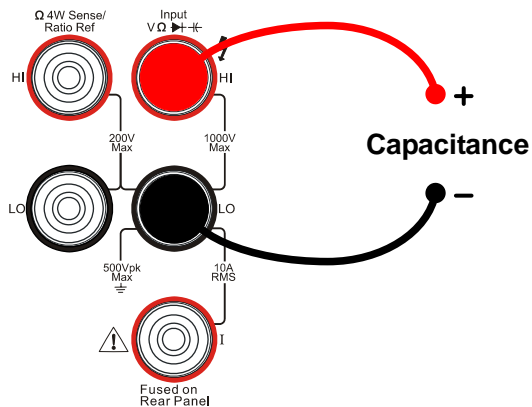

Figure 1-26
1. Connect test leads as Figure 1-26 shown. Red test lead connects the HI Terminal, Black test lead connects the LO Terminal.